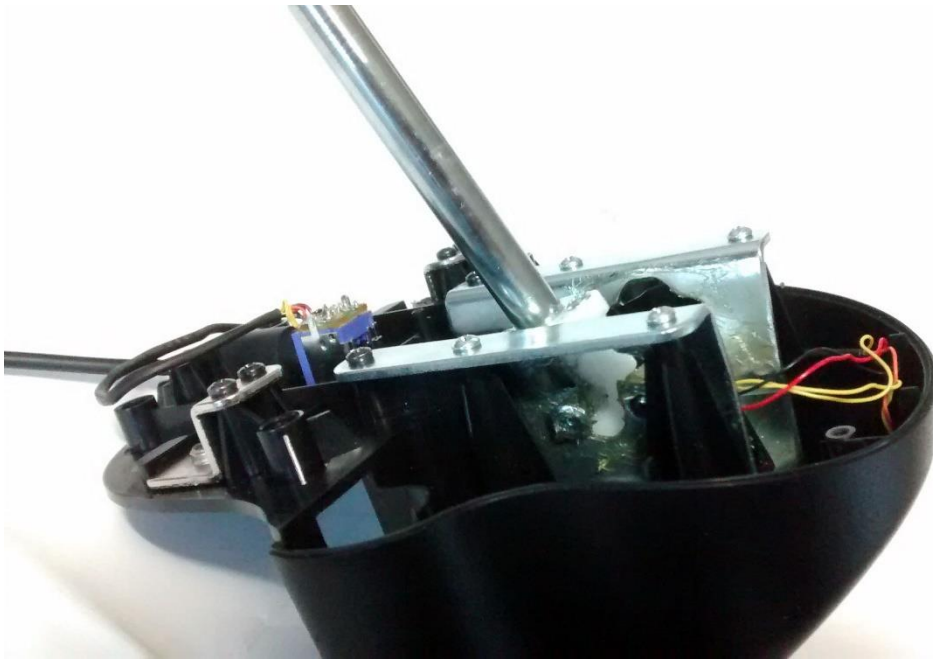

Figure 19 – Reassembled shifter assembly in reverse gear location
- When the gear lever is in the Fanatec reverse gear position, as shown in Figure 19, the metal rod should not be able to move up or down, otherwise the reverse gear capability may become impaired.